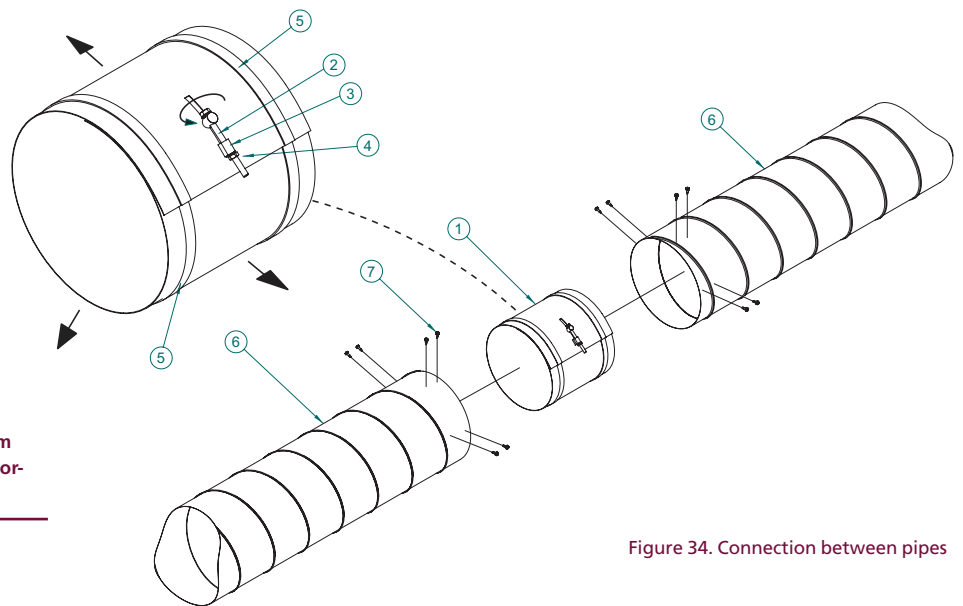

Figure 34. Connection between pipes
3. Turn the hexagonal screw clockwise, allowing the nipple to increase its diameter. It will expand inside the inner surface of the two emitter tubes (see details in Figure 34)
- Turn the hexagonal screw in a clockwise sense, allowing to the nipple to increase its diameter. It will adhere to the inner surface of the two emitting tubes (see details in Figure 34)